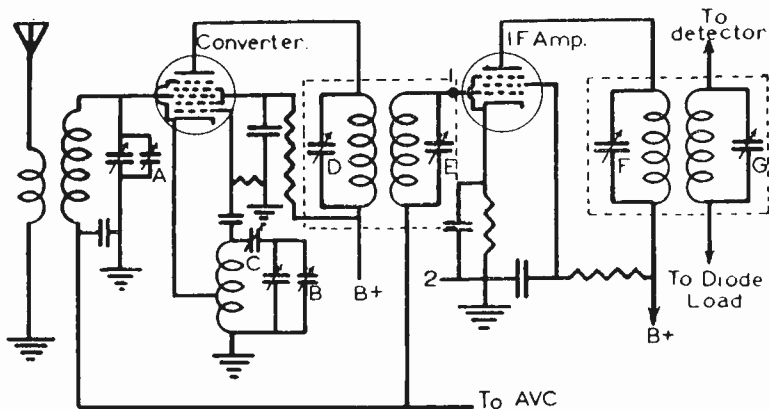

FIG. 11. Typical superheterodyne converter and i-f stages.
The oscillator-mixer and i-f amplifier sections of a common single-band superheterodyne receiver are shown in Fig. 11. This schematic will be used in this discussion so you can become more familiar with the circuit connections of the trimmers and be able to identify them more readily.
3. Short the oscillator section of the tuning condenser, trimmer B in Fig. 11. This stops the oscillator and prevents the oscillator signal from beating with the signal generator output to produce spurious signals at random frequencies.
6. Adjust the i-f trimmers for maximum response. These are the trimmers D, E, F and G in Fig. 11. The i-f trimmers are usually mounted on the i-f transformer—on the top, the bottom, or the side of the shield can. In some older receivers, however, the trimmers are mounted separately. With the latter, you will have to depend on the manufacturer's instructions or you will have to trace the circuit to locate the i-f trimmers. In some older receivers, the output i-f transformer, the one feeding the second detector, has only one trimmer. In other sets, one trimmer is mounted on top of the transformer and the other on the bottom. Look carefully before you decide there is only one trimmer.
12. Set the signal generator BAND switch and MAIN TUNING to the frequency indicated by the receiver dial. Adjust the oscillator trimmer, B in Fig. 11, for maximum output.
13. Without changing the setting of the receiver dial or the signal generator MAIN TUNING, adjust the mixer trimmer, A in Fig. 11, for maximum output.
14. Tune the signal generator and the receiver to 600 kc. (Use any frequency between 600 kc and 650 kc.) Adjust the padder, C in Fig. 11, for maximum output. This procedure gives best dial accuracy; if maximum sensitivity is desired, use the following procedure, known as "rocking."